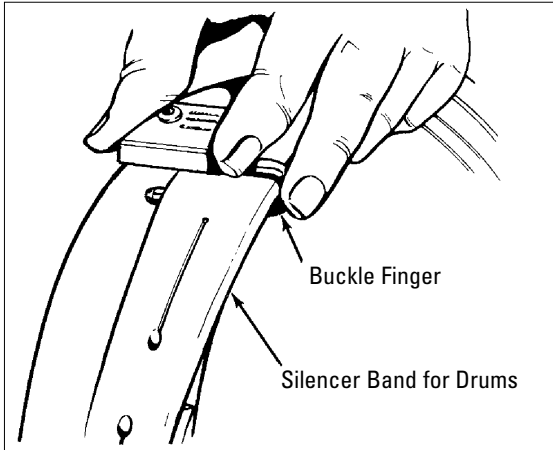

Figure 9 - Attach silencer band
**3.** Wrap the drum silencer band snugly around the drum. Be sure it covers up to the right-hand edge (figure 9).